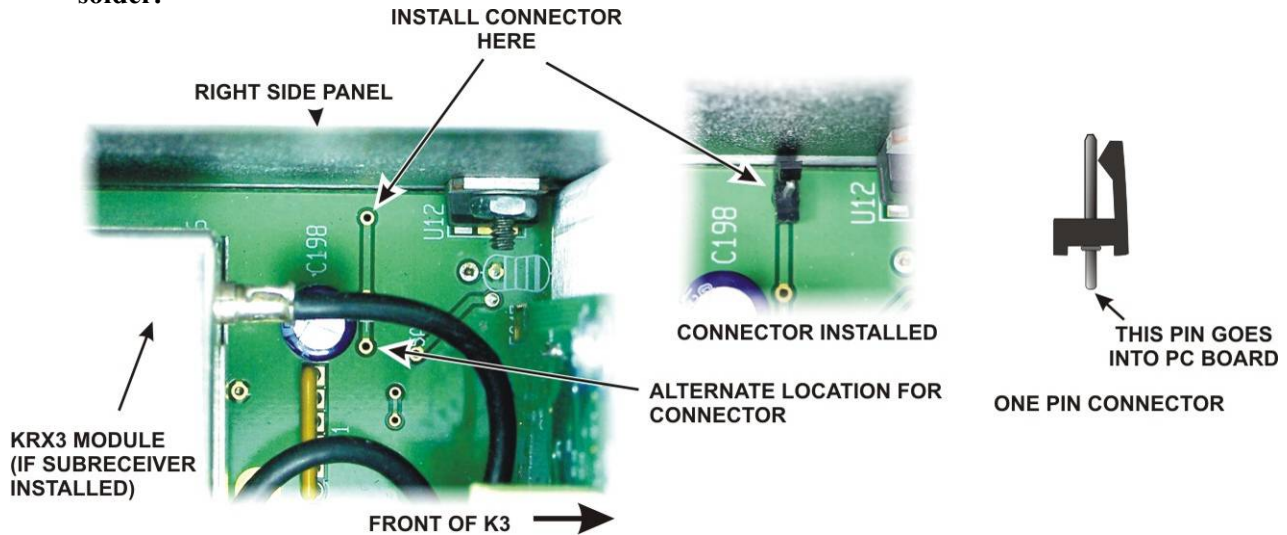

Figure 4. Installing the One-Pin Power Connector on the K3 RF Board.
2. Temperature-controlled soldering iron with a fine tip and small diameter rosin core solder may be needed if the power connector is not already installed in your K3 (see Figure 4 on page 11).
Check to see if the one-pin power connector is already installed on the K3 RF board (see Figure 4). If so, skip the following steps and go directly to *Installing the ANT3 Connector* on page 11.
Solder the male half of the one –pin connector to the via (copper plated hole through the board) near the front right area of the K3 main RF board just behind the front panel shield as shown in Figure 4. That via may be occupied on some K3 transceivers. If so, use the alternate location shown. Mounting the connector may be done by standing the K3 on its left side and inserting the connector in the hole in the pc board. Carefully solder the pin to the copper via on the bottom. If necessary, you can straighten the connector after soldering by pressing down on the shoulder with your finger while reheating the solder on the bottom.
- Skip this step if you are not installing the K144XV Reference Oscillator Phase Lock option at this time. Disconnect the TMP cable from J83 on the Main KSYN3 board (mounted on the front panel shield closest to the side panel you have removed; see Figure 4, *TMP Cable Connections*, in the K144XV Reference Oscillator Phase Lock Option Installation manual). Leave the other end of the cable connected to J2 on the KREF3 board. Take the TMP cable from your K144XV Ref Lock kit and plug it into J83 on the KSYN3 board. You will plug both of these cables into K144XV after the module has been installed. Be sure to position the cables so you can reach them after installing the K144XV module in the following steps.
Skip this step if you are not installing the K144XV Reference Oscillator Phase Lock option at this time. Refer to the K144XV Reference Oscillator Phase Lock Option Installation manual and install the Phase Lock board as shown in Figure 3, *Installing the Phase Lock Board*, on page 7, and then connect the TMP cables as described on page 8 and in Figure 4, *TMP Cable Connections*.